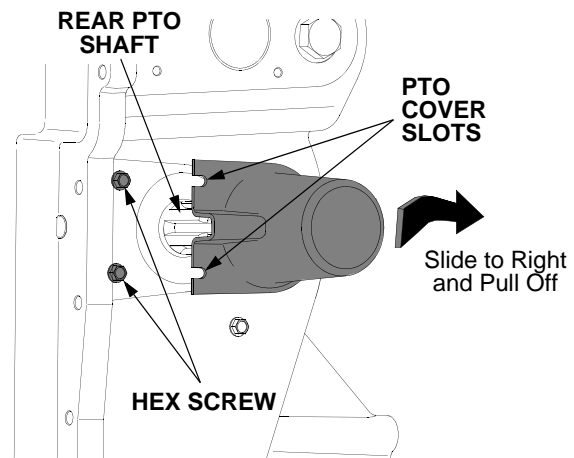

Figure 21
- Loosen the two screws on the left side of the cover. Refer to Figure 21.
- Slide the cover to the right until the slots of the cover are free of the screws and pull the cover off. Refer to Figure 21.
- When finished using the rear PTO, slide the cover fully onto the shaft; then slide the cover to the left until the slots are underneath the screw heads. Tighten the screws to secure the cover. Refer to Figure 21.